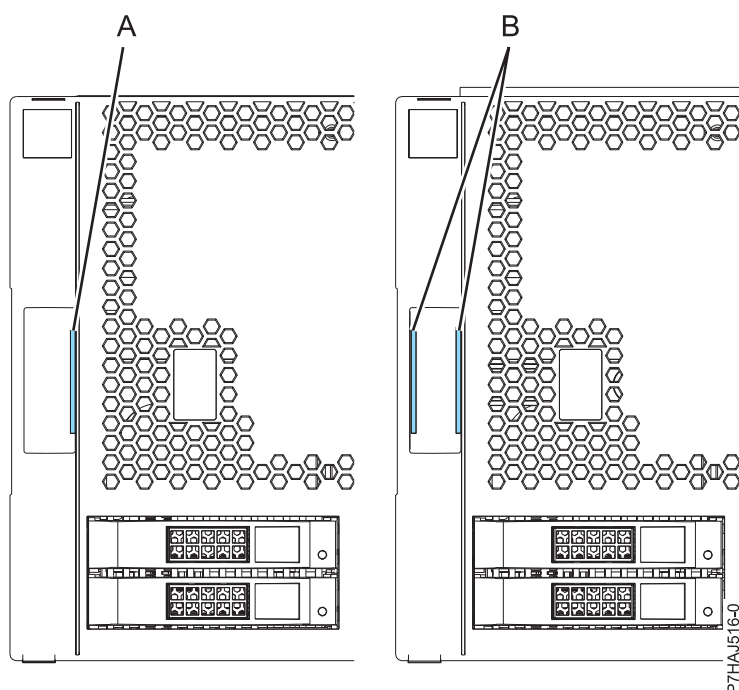

Figure 3. Identifying the older and newer covers
Note: The older covers that were shipped before 1 March 2011 can be identified by a single blue stripe (A) on the cover assembly latches. Newer covers that were shipped after 1 March 2011 have two blue stripes (B) on the cover assembly latches. See Figure 3.